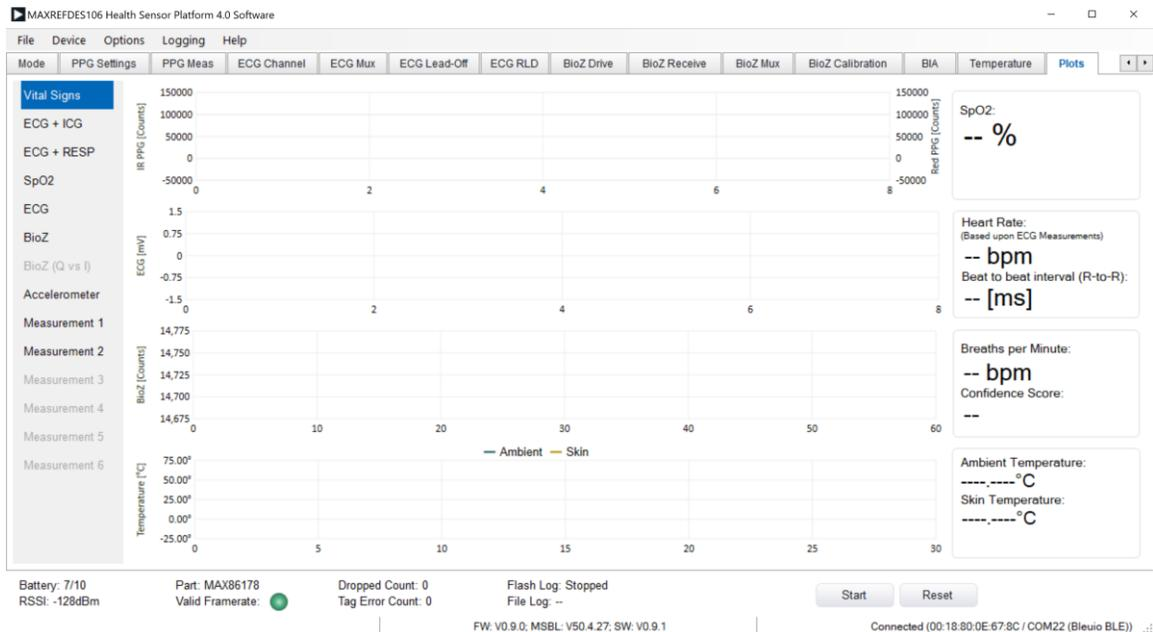

Figure 66. Plots Tab
- ▶ Summary plots for PPG-SpO2, ECG-HR, BioZ-Respiration, and Temperature (Skin/Ambient). See Figure 66 to select other combinations of signals.